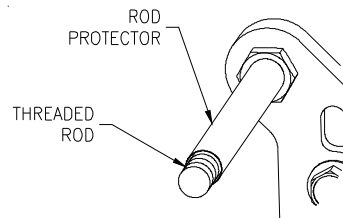

Fig. 14
14. Slide plastic rod protectors onto rods. See Fig. 14